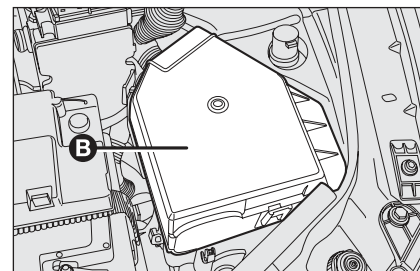

fig. 19
**IMPORTANT** To open the left-hand bulb holder cover (running direction) to replace the bulb, remove first of all the engine compartment fuse box cover **B-fig. 19**.